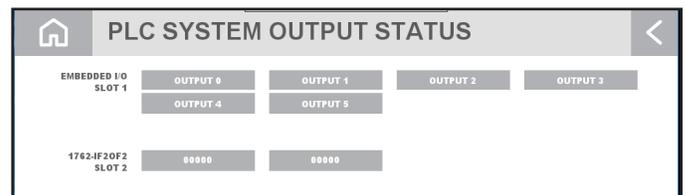

Figure 12.3: Output Status screen
- Embedded digital IO shows the status of every PLC output (Green = ON / Gray = OFF) [Figure 12.3].